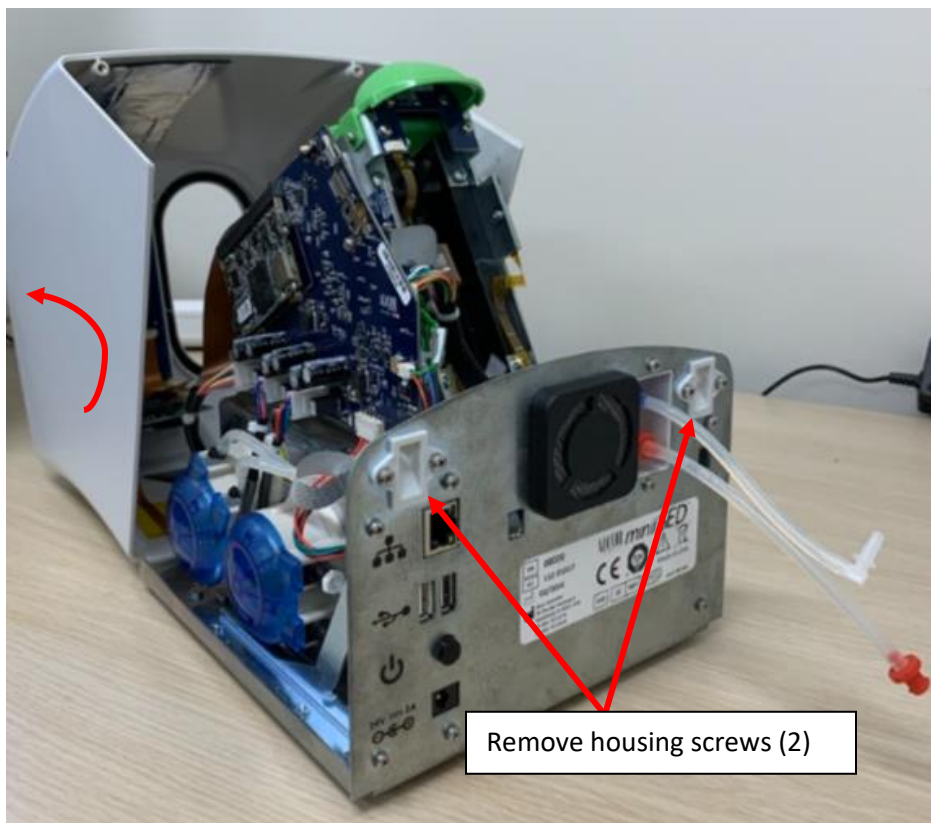

Figure 4
- 2.3. Remove the back enclosure by unscrewing the 2 Phillips screws and rotate Housing forward. Figure 4.